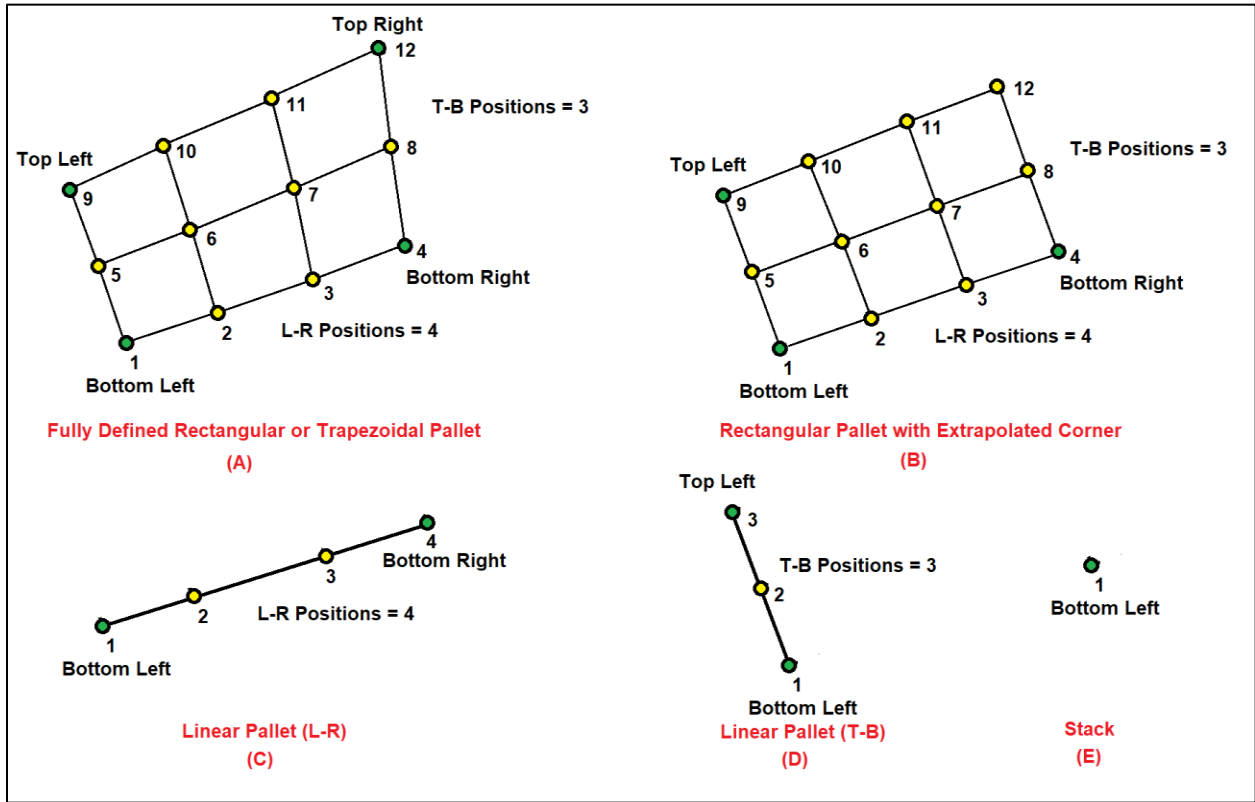
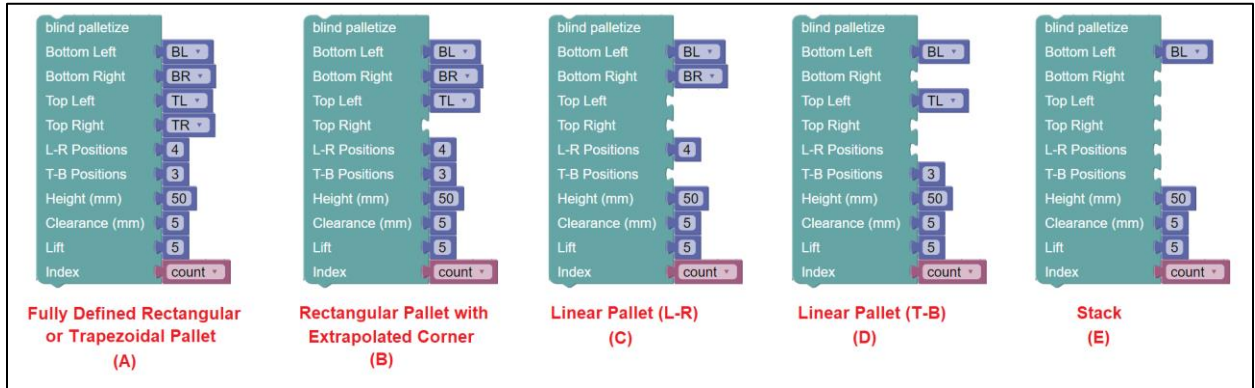

Figure 26 - Pallet Configurations
Figure 27 - Pallet block usage
Blind palletize provides a high degree of flexibility in placing objects in a grid pattern, described in Figure 26.
blind palletize	blind place in a pallet (see Figure 26)
The **Blind Palletize** block provides a high degree of placement flexibility. Figure 26 shows the five different configurations for this block, while Figure 27 shows the use of the block on the canvas for the various configurations. For each configuration, waypoints are used to specify the corner locations of the pallet by indicating the top-center locations of the object to be palletized. Up to four waypoints can be specified, to fully define the pallet geometry (A), which can have a rectangular, parallelogram, or trapezoidal shape. These waypoints are the **Bottom Left**, **Bottom Right**, **Top Left**, and **Top Right**. The blockly examples (Figure 27) show waypoint definitions (from the Move category) attached to the waypoint sections of the palletize block. Fewer than four waypoints can be specified, in order to create simpler palletization scenarios. For example, if the **Top Right** waypoint is unspecified, this location is extrapolated from the three specified points (**Bottom Left**, **Bottom Right**, and **Top Left**) as shown in example (B). Linear pallets can be specified using just two waypoints, using the **Bottom Left** and **Bottom Right**, shown in example (C), or using the **Bottom Left** and **Top Left**, shown in example (D). If only the **Bottom Left** waypoint is specified, the palletize block will simply stack at the **Bottom Left** waypoint, shown in example (E).
The last parameter, **Index**, is a variable that starts at 1 to indicate the object should be set at the **Bottom Left** location. Incrementing **Index** will cause the palletize block to compute positions first along the **L-R** direction between the **Bottom Left** and **Bottom Right** and then increment along the **T-B** direction between the **Bottom Left** and **Top Left** and then increment in **Height**. The numbers in Figure 26 indicate the palletizing order for the first layer.